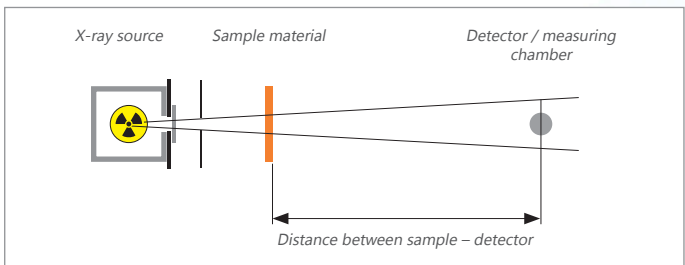

Fig. 12: Schematic representation according to the older DIN EN 61331-1:2006
▶ What is important to know: When taking the measurement, the measuring chamber is not placed directly behind the sample (the protective material) (see fig. 12).